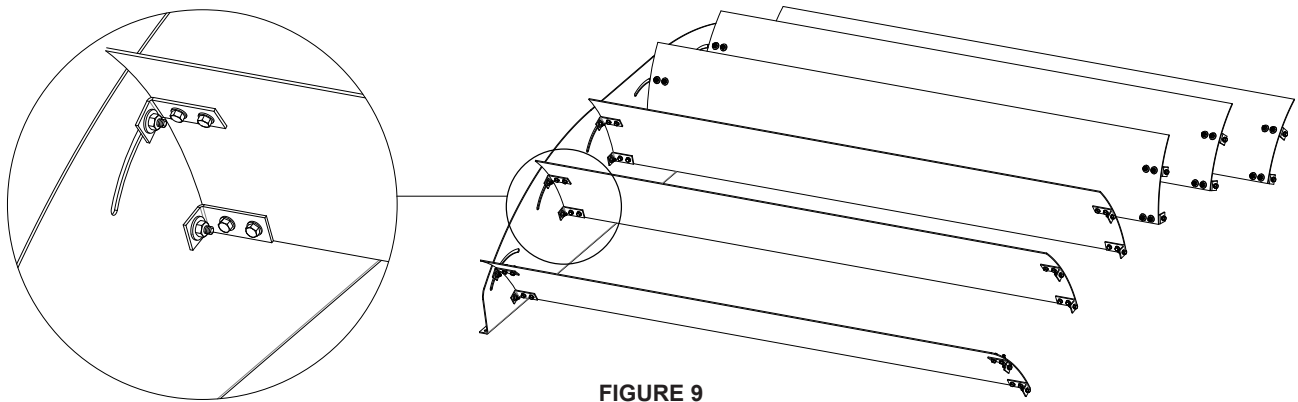

FIGURE 9
4. On a level surface, attach each turning vane to one vane support using Wiz Lock bolts, washers, and nuts provided, as shown in Figure 9. The flange of the vane support should face outward, away from the turning vane. Arrange the turning vanes in the proper directions to achieve desired airflow control at the end of the assembly process. Do not tighten the bolts completely in order to allow position adjustment of the turning vanes at the completion of the assembly process.